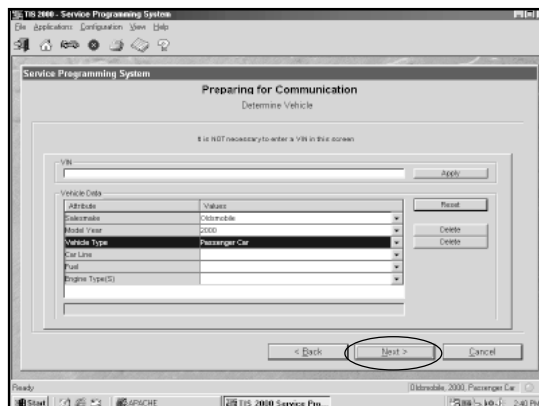

Figure I-43, Preparing for Communication / Determine Vehicle screen
3. At the Preparing for Communication/Determine Vehicle screen (Figure I-43), complete all terminal-directed data until Next is highlighted (vehicle data will vary). **Select Next.**